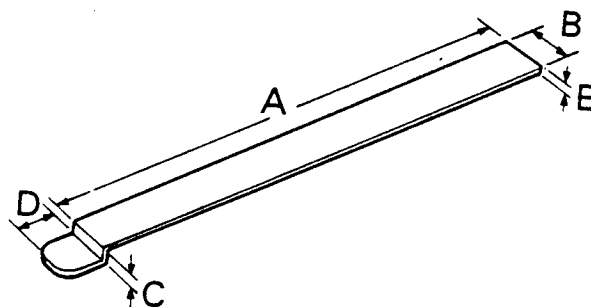

Figure 8. FEELER GAUGE — LAYCOCK CLUTCH
2. Make a feeler gauge to the dimensions shown in Fig. 8 and remove cover plate from right-hand side of the clutch housing.